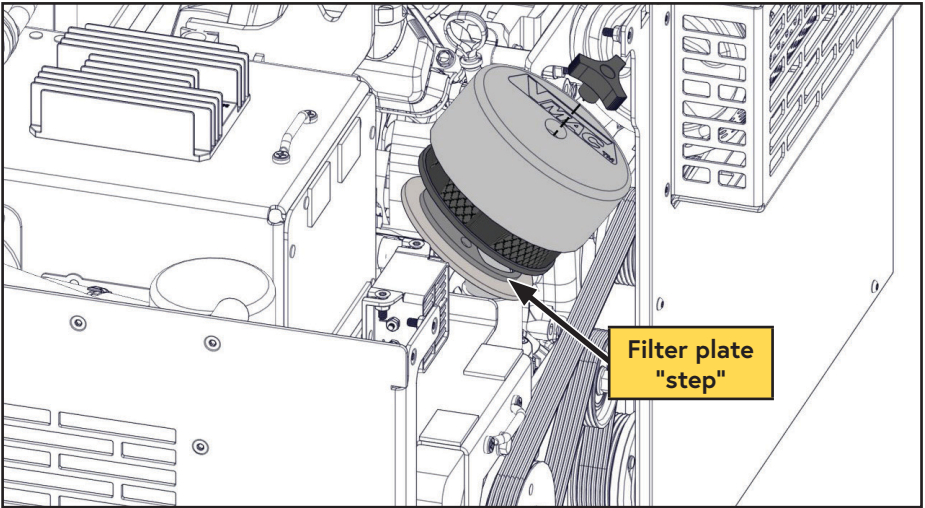

Figure 30 — Install air filter element
The compressor air filter can be accessed and changed from the service panel side of the Gas MF. For clarity, Figure 30 is shown with the top panel open.
- ☐ Ensure the filter element fits securely onto the filter plate "step" (Figure 30).